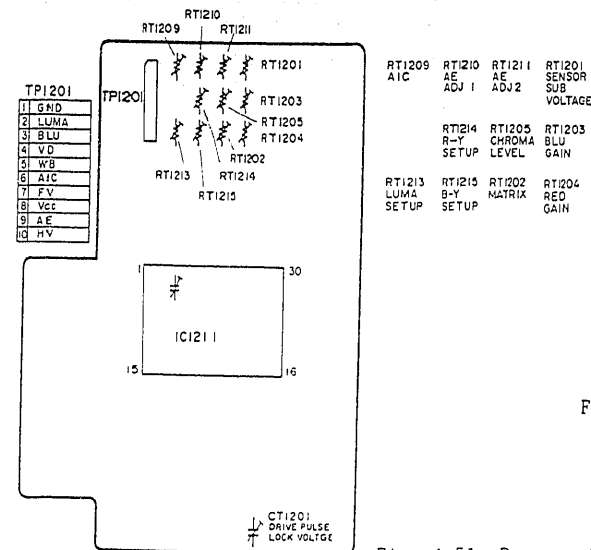

Fig. 4-51 Process Circuit Board (Side-B)
(8) White Balance Hold Voltage Setting. (Fig. 4-51)
(12) Program AE Adjustment (Fig. 4-51)